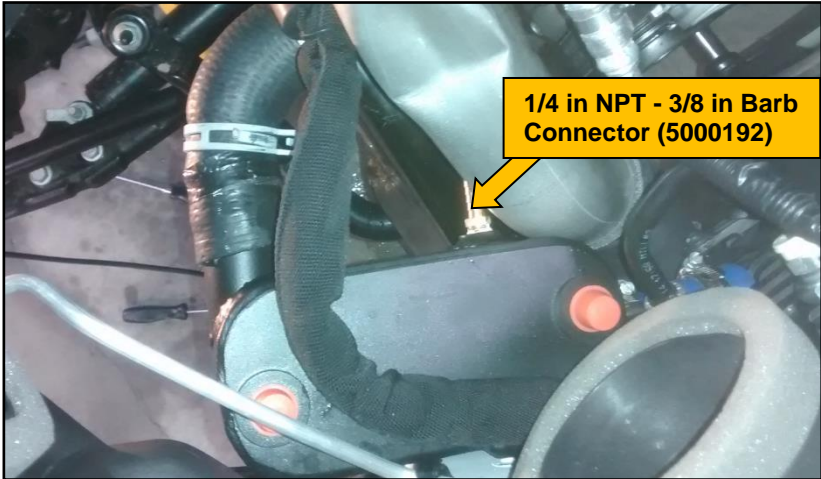

Figure 30 – Installing the preheat line
- Using thread sealant, install 1/4 in NPT-3/8 in Barb Connector (5000192) in port on back of cooler (Figure 30).
- Install 3/8 in coolant hose (Figure 30) on barb fitting and secure with 2200001 hose clamp.